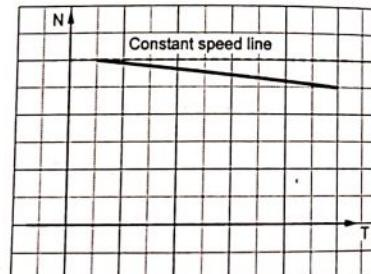

Fig. 8.8.3 N Vs T for shunt motor
- This curve shows that the speed almost remains constant though torque changes from no load to full load conditions. This is shown in the Fig. 8.8.3.